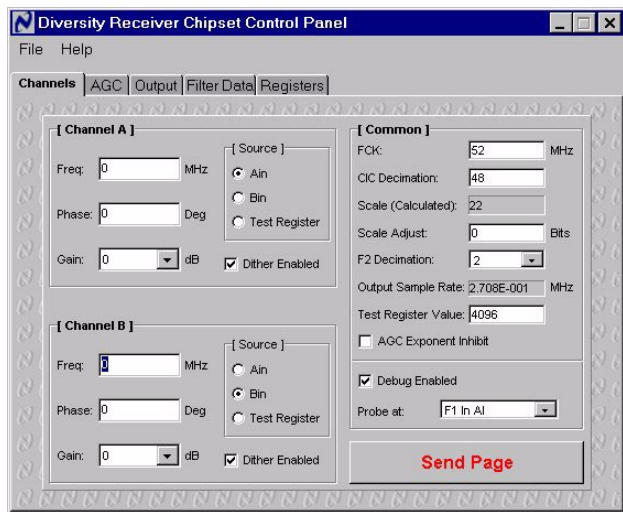

Figure 32 DRCS Channel Configuration, Debug Output
- On the **Channels** page of the DRCS Control Panel, enter 0 for **Freq** within the **Channel A** box to set the frequency of the channel A NCO to zero. Also check **Debug Enabled** and select **Mixer AI** from the **Probe at** pulldown menu within the **Common** box. The screen should appear as in Figure 32. Click on the **Send Page** button. Immediately following this, a data transfer indicator box will appear on the monitor and all the LEDs on the DRCS7 Board will light momentarily.